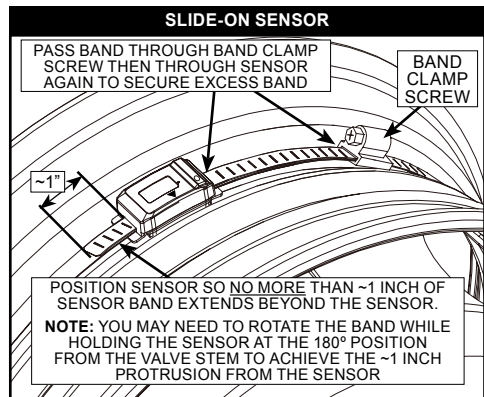

Figure 4: Slide-on internal sensor final install
4. Put the sensor and band clamp in the **center position** of the wheel hub and pass the band through the band clamp screw, then again through the belt-mounted sensor. See *Figure 4*.
2) On **SLIDE-ON SENSOR** position the sensor to secure the tail. See Figure 4.